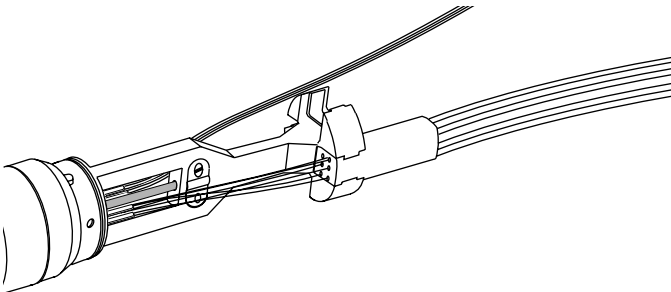

Figure 16
- After completing the first plug, secure it in the clip in the fan-out body (Figure 16).